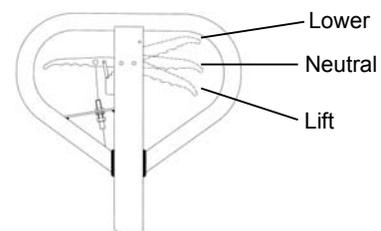

Figure 4 Lever Positions
If necessary, you can adjust the lever according to following steps (Fig. 4):
- If the forks do not descend when the control handle is in the **Lower** position, turn the adjusting nut clockwise until raising the control handle lowers the forks. Then check the **Neutral** position according to fig. 4 and be sure that the adjusting nut is in the proper position.